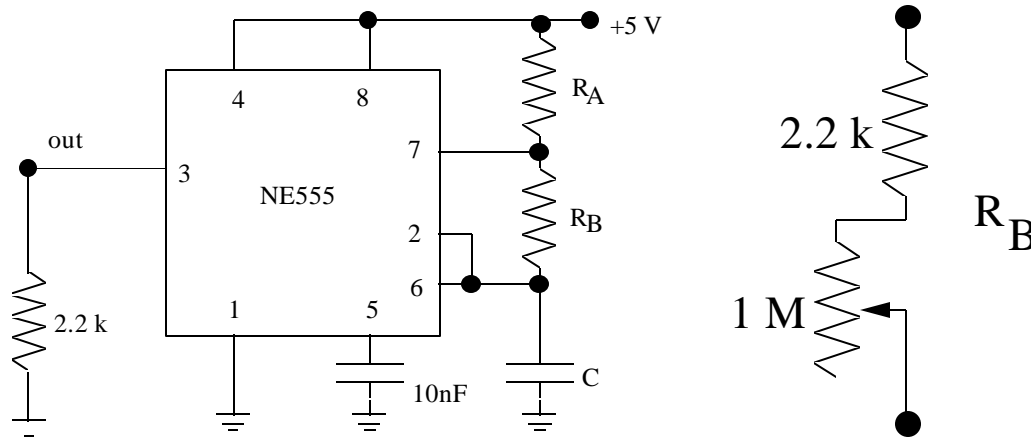

Figure 11.2 NE555 oscillator circuit
11.1 The 555 can be used as an oscillator ("astable" mode) in the circuit shown in Figure 11.2:
Build the circuit in Figure 11.2 using $2.2\text{ k}\Omega$ for R_A , another $2.2\text{ k}\Omega$ in series with a $1\text{ Meg}\Omega$ potentiometer for R_B (as shown in Figure 11.2), and 360 pF for C . Determine the frequency range that can be achieved by varying the potentiometer, and compare with the theoretical range based on the equations given in the NE555 data sheets (see Appendix). Measure the frequency and duty cycle (fraction of time the output spends in the high state) for several potentiometer settings, and compare to predicted values (see Pre-lab Question 2). **Note:** the data sheets use a slightly different and unusual definition of the duty cycle.